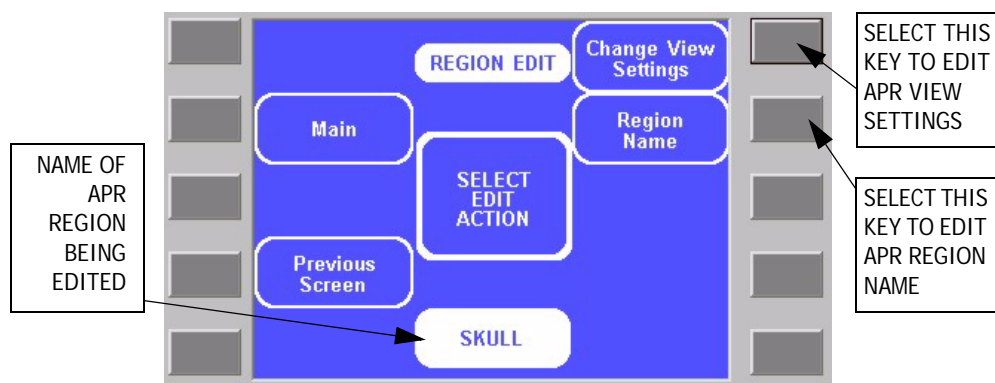

Figure 4-3. APR Region Edit Screen
4. **Welcome Screen** Within five seconds of start up, press the upper left field select key as shown in Figure 4-3. The Password menu displays: